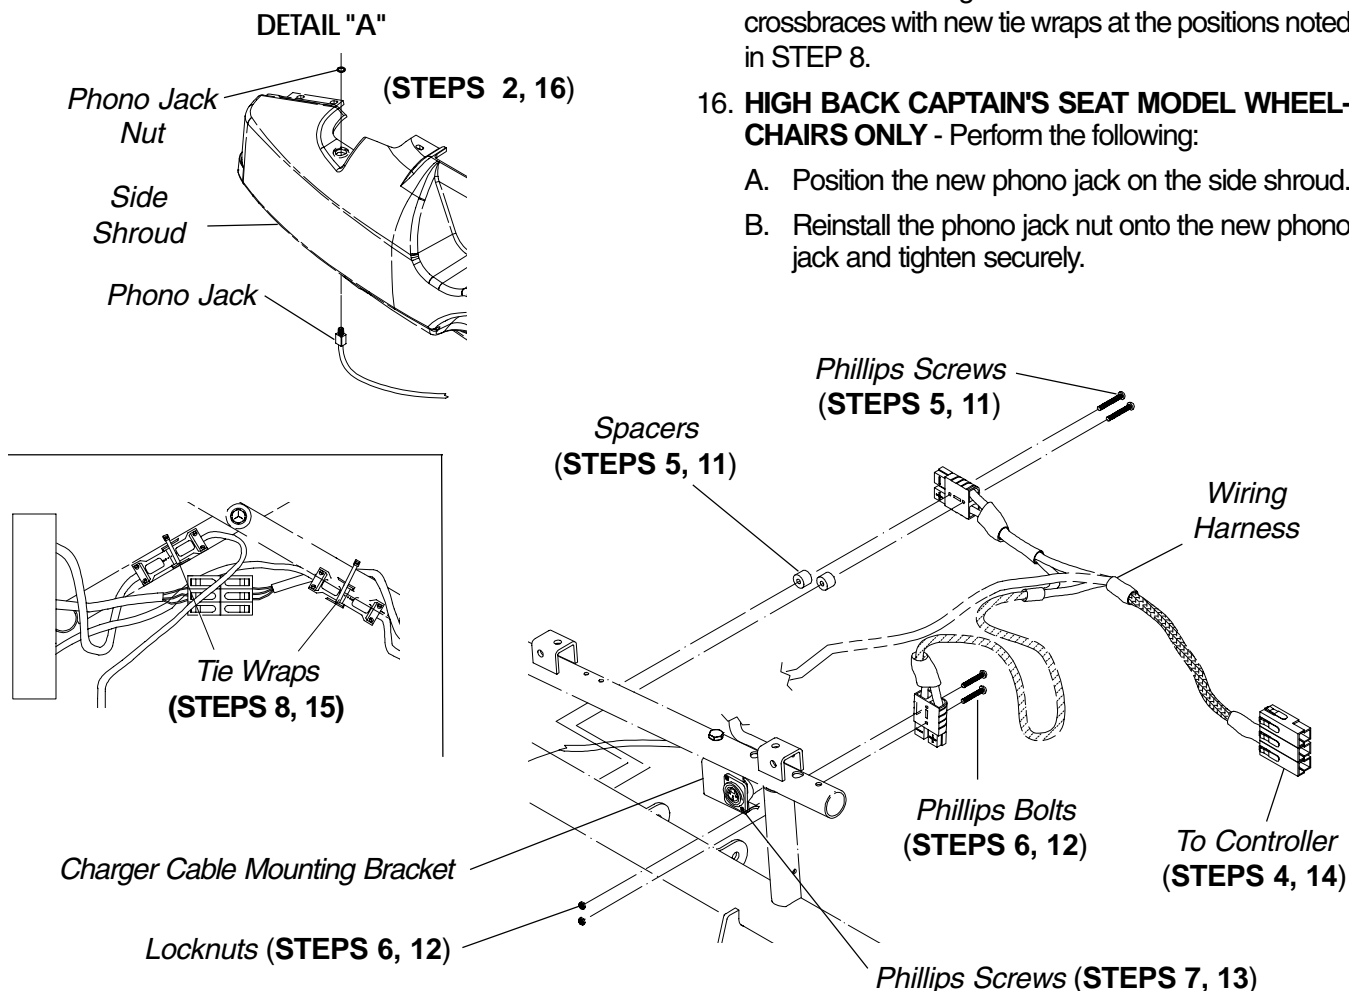

FIGURE 11 - REPLACING WIRING HARNESS
(FIGURE 11)**
5. Remove the two (2) phillips screws and spacers that secure the rear battery connector to the wheelchair frame.
6. Remove the two (2) phillips bolts and locknuts that secure the front battery connector to wheelchair frame.
7. Remove the two (2) phillips screws that secure the wiring harness to the charger cable mounting bracket.
11. Position the rear battery connector on the wheelchair frame as shown in FIGURE 11 and secure with the two (2) phillips screws and spacers.
12. Position the front battery connector on the wheelchair frame as shown in FIGURE 11 and secure with the two (2) phillips bolts and locknuts.
13. Secure the wiring harness to existing charger cable mounting bracket on the seat frame with the two (2) phillips screws.